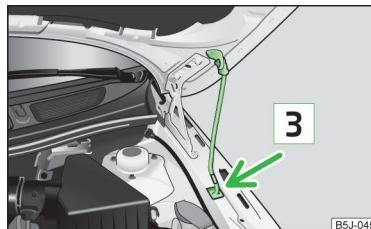

Fig. 125
- Take the bonnet prop out of its bracket and secure the opened bonnet by inserting the end of the prop in the opening 3 » Fig. 125 provided.